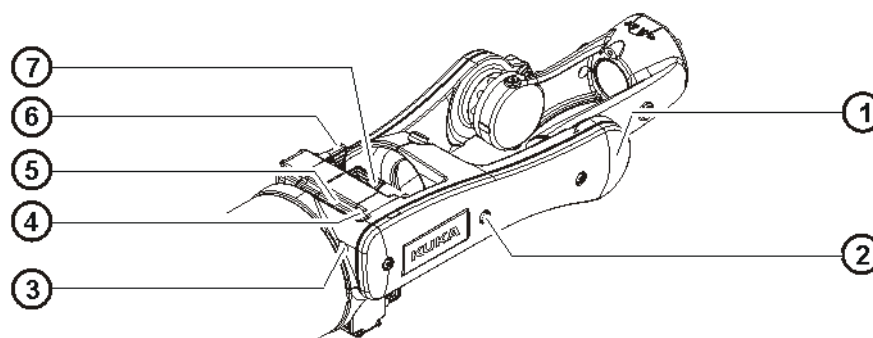

Fig. 11-25: Removing motor A 6
1. Slacken Allen screw (>>> Fig. 11-25) and nut and unscrew them by a few turns.
9. Insert the Allen screw (>>> Fig. 11-25) and nut and tighten them lightly.